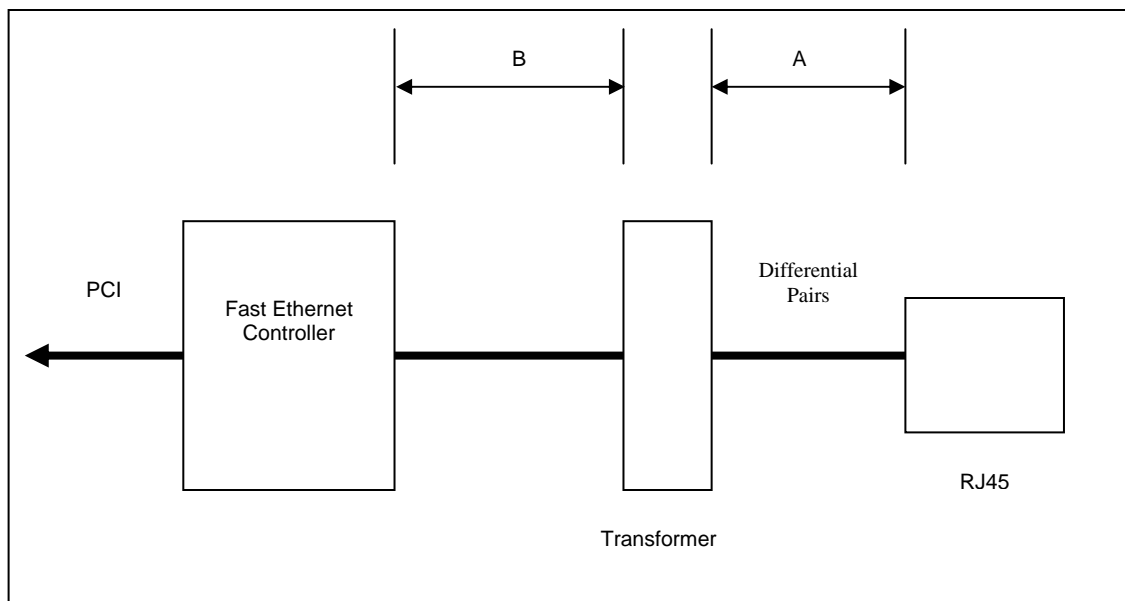

Figure 20 – Critical Dimensions
- There are two critical dimensions that must be considered during the layout phase of an Ethernet controller. These dimensions are identified in Figure 20 as A and B.
Distance B: PHY to Transformer (Priority 2) Distance B from Figure 20 also should be designed to extend as short as possible between devices. The high-speed nature of the signals propagating through these traces requires that the distances between these components be closely observed.